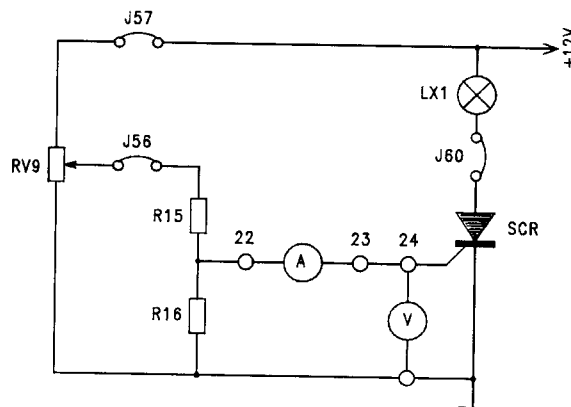

fig. B11.7
- Produce the circuit of fig.B11.7, connecting jumpers J56, J57, J60, the ammeter and the voltmeter (or the oscilloscope)